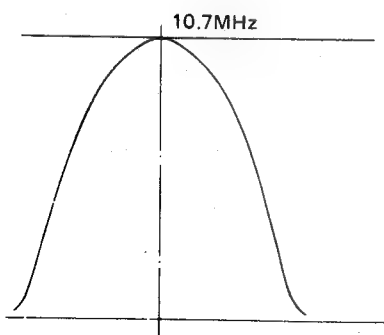

Figure 14.
6. Reduce the output of sweep generator to the extent enough to provide the waveform as shown in Fig. 14.
7. Adjust the cores of TA01 and TA03 to achieve correct IF waveform: that is, adjust each of the cores so that there will be a good single peak response and right-to-left symmetry, as shown in Fig. 14.